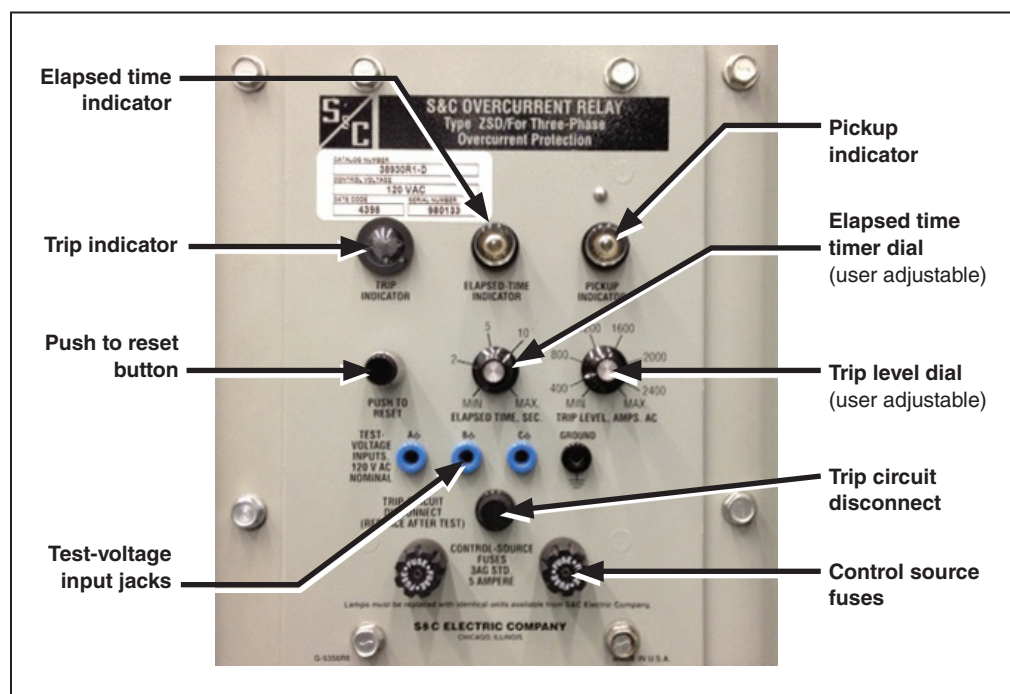

Figure 1. S&C Type ZSD Overcurrent Relay.
The S&C Type ZSD Overcurrent Relay is designed for application in S&C Metal-Enclosed Switchgear rated 4.16 kV through 34.5 kV. It is typically applied on three-phase circuits in conjunction with a switch-operator-driven S&C Mini-Rupter® Switch or Alduti-Rupter® Switch and S&C Closed-Gap Current Sensors, which sense the current in each phase of the circuit. The relay will trip the switch operator to open the interrupter switch—and thus achieve three-phase isolation of the circuit—after a fault downstream of the current sensors has been cleared by a protective device. See Figure 1.
- STEP 1.** Remove the CONTROL SOURCE FUSES from the front of the relay. See Figure 1 on page 7.
- STEP 1.** Verify the “A-phase” current sensor is functioning properly by inserting the probes of a digital voltmeter, having a minimum input impedance of 1 megaohm per volt, into the test-voltage input jacks labeled “A ϕ ” and GROUND on the front of the relay. See Figure 1 on page 7. The current-sensor output voltage multiplied by 30 is approximately equal to the actual primary current. Thus, a 5-volt ac measurement corresponds to a current-sensor primary-circuit current of approximately 150 amperes.